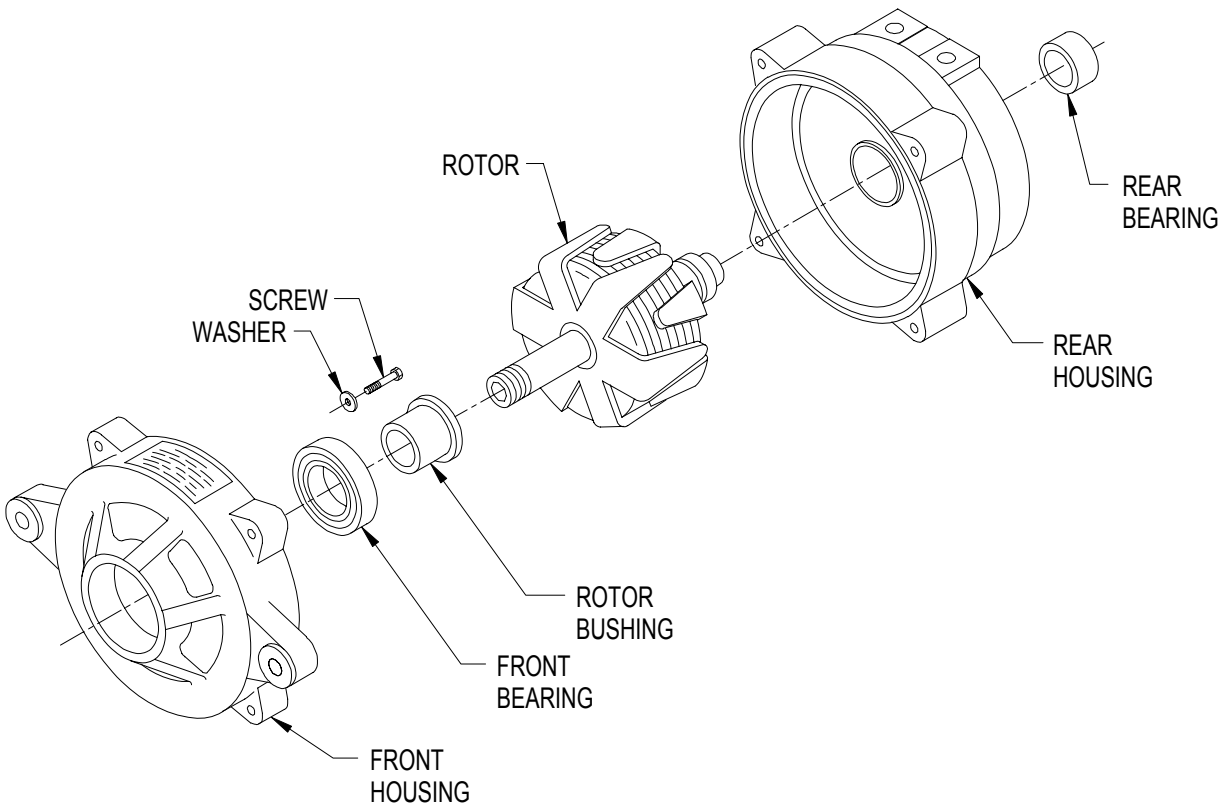

Figure 5-47. Alternator Bearing Replacement
- (1) Disassemble alternator assembly. Refer to paragraph 5.28.b.
- (2) If necessary, using wheel puller, remove rotor bushing (Figure 5-47).
- (3) Remove screws and washers securing front bearing. Using suitable press, press front bearing out of front housing.
- (4) Using suitable press, press rear bearing and dust cap out of rear housing using a dowel with a diameter slightly less than outer race of rear housing bearing.
- (5) Clean bearing cavities in front and rear housings with isopropyl alcohol (Item 12, Appendix E).
- (6) Apply light coating of general purpose grease (Item 11, Appendix E) to each bearing cavity.
- (1) Press new front bearing into front housing (Figure 5-47).
- (2) Install rotor bushing. Apply locking compound (Item 6, Appendix E) to threads of screws. Then install screws with washers. Torque screws 60 to 65 lbs-in. (6.8 to 7.3 Nm).